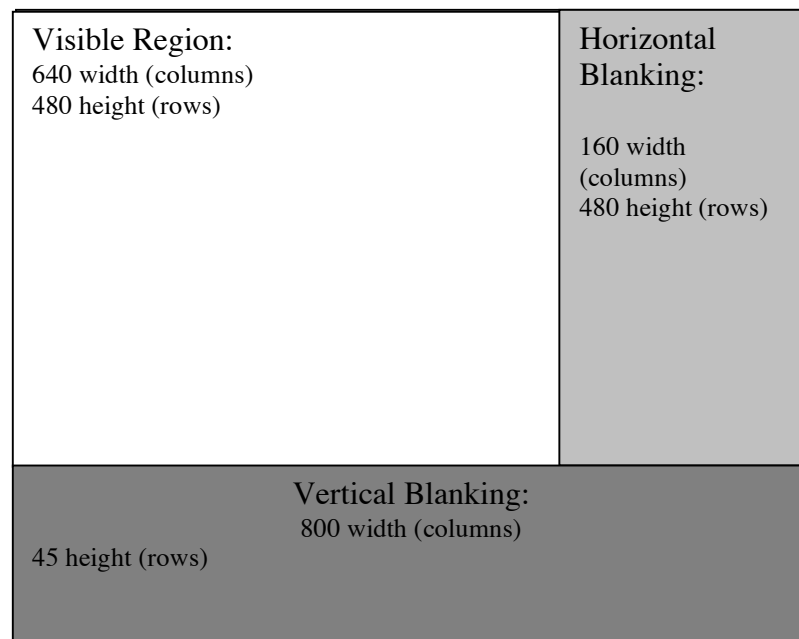

Figure 2. Display Regions
In this lab, you are required to create a 640 pixel x 480 pixel screen display. A pixel clock operating at 25 MHz will be used. To get 640 pixels horizontally, a horizontal synchronization frequency of approximately 31.5 KHz is required. This corresponds to approximately 800 clock periods of the pixel clock. During the first 640 clock periods of the pixel clock for a row, visible pixels can be displayed; however, the last 160 clock periods for the row are called the "retrace period" or "blanking region" where nothing is displayed while the beam retraces back to the left of the screen. To get 480 pixels vertically, a vertical synchronization frequency of 60 Hz is required. This corresponds to approximately (800x)525 clock periods of the pixel clock. This can be thought of as generating 480 visible rows followed by 45 blank rows during which the beam retraces back to the top of the screen. This is illustrated in Fig. 2.
- Generate a signal to determine whether the pixel is in the visible region as illustrated in Figure 2.